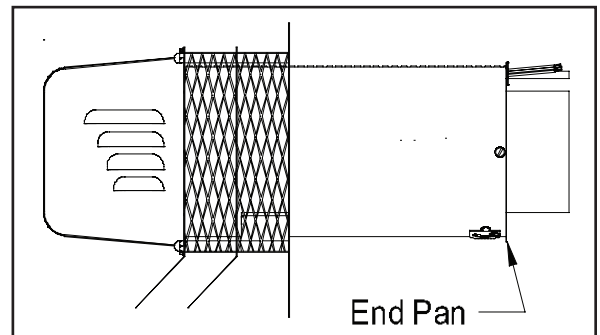

Figure 5
1. Remove the End pan from the SWG Venter. (See Figure 5)